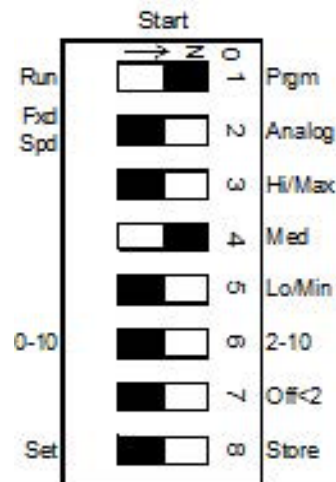

FIGURE 17 - MEDIUM SPEED ADJUST
2. **Medium speed Adjust:** Set Configuration Switch to MEDIUM SPEED adjust (see *Figure 17 on page 28*). Switches to ON-OFF-OFF-ON-OFF-OFF-OFF-OFF-OFF.
- **STORE:** Set switch 8 to Store (ON), wait one second, then to Set (OFF), to save the value.